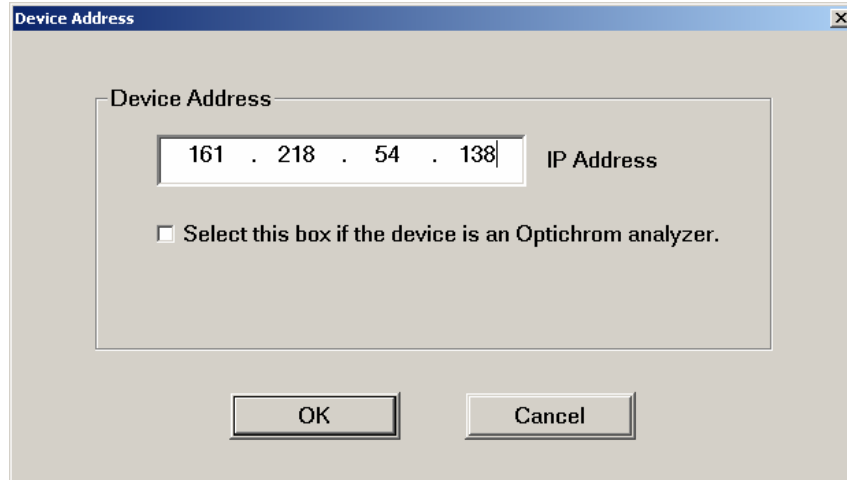

Figure 15.
2. Specify the device’s network address(See Figure 15). Then select OK.